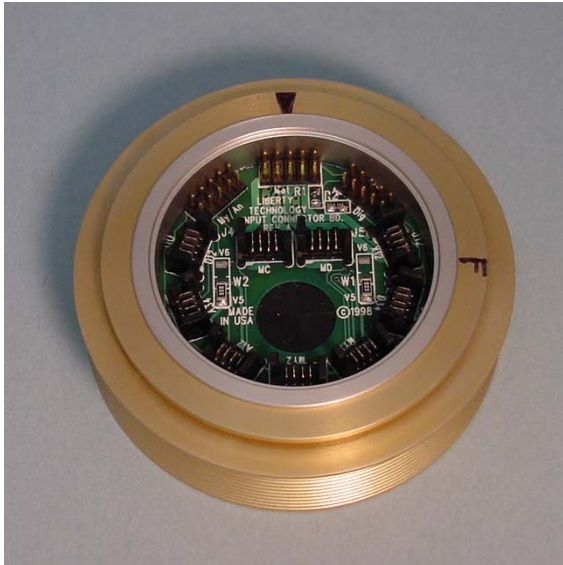
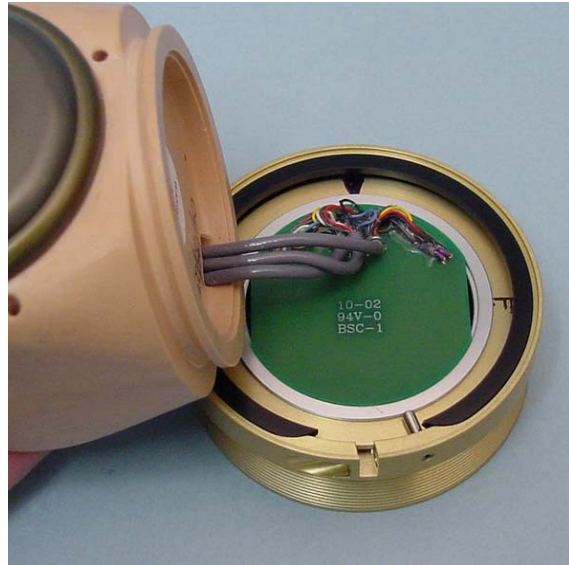

Figure 3. There are three sets of pins on the Input Connector Board. Center the middle set on the mark on the Lamination Collar.
Figure 4. The three plugs on the Cover Board have been placed over the pins on the Input Connector Board.
- 1. Attach just the Collar.** Referring to Figure 3 install the Input Connector Board into the Lamination Collar and then add the Cover Board. (You may save time if you install the input cables to the Input Connector Board first.) Figure 4 shows the addition of the Clamp Ring. When the Clamp is screwed loosely in place, it should look like Figure 1.